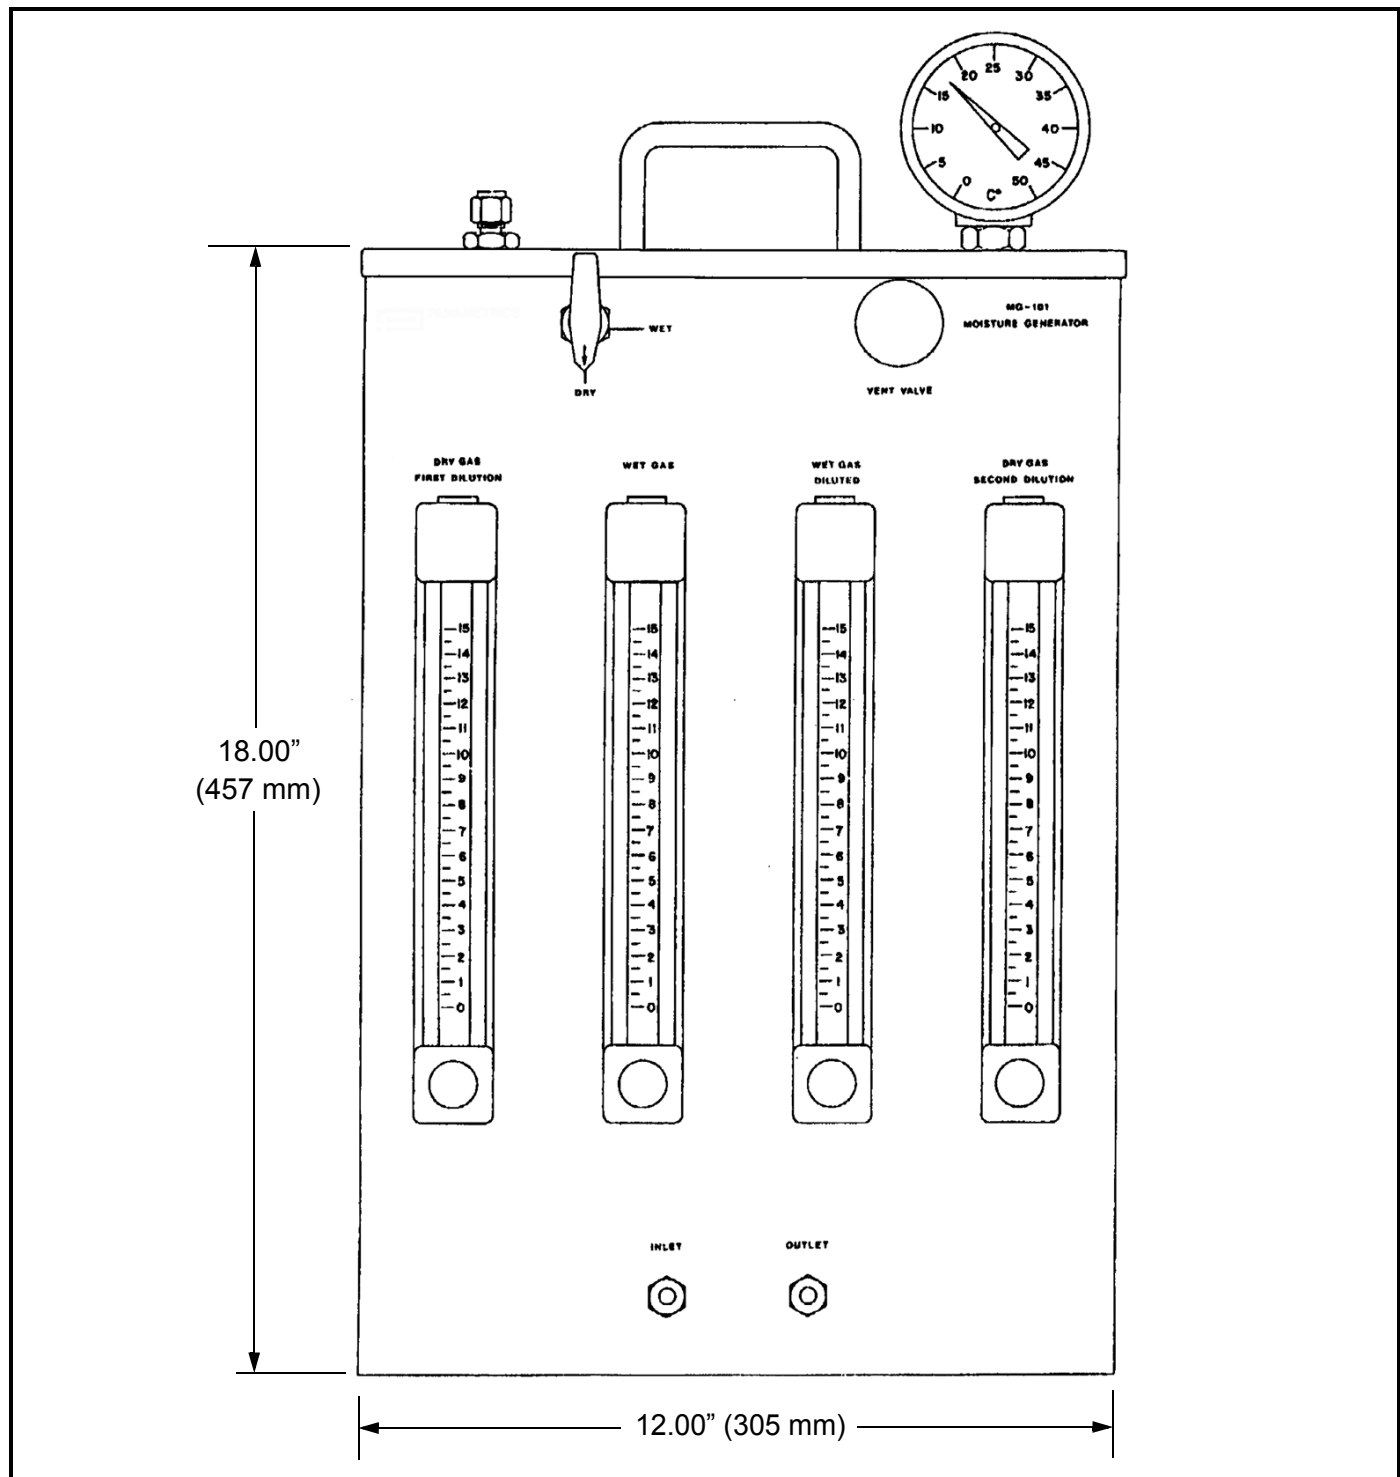

Figure 8: MG-101 Moisture Generator Outline Dimensions
**Note:** See Figure 8 on page 16 for a dimensional drawing of the MG-101.